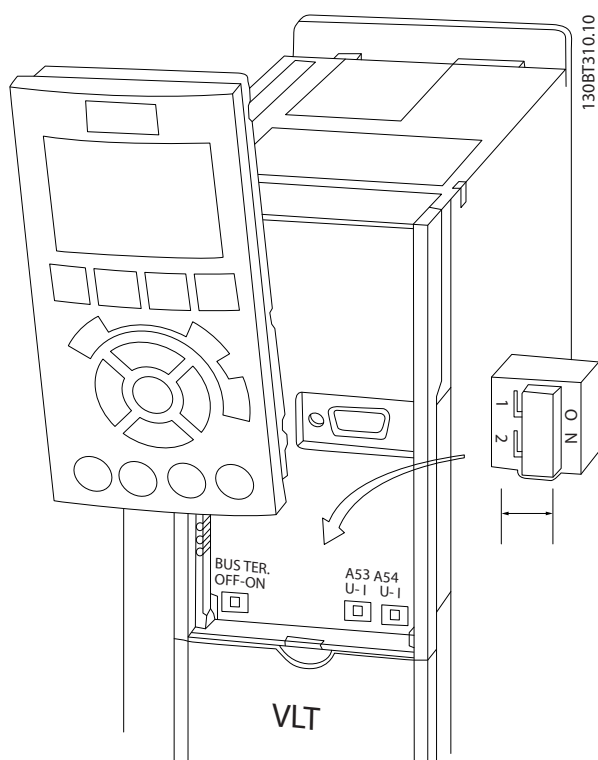

Figure 2.14 Location of Terminals 53 and 54 Switches and Bus Termination Switch
- The switches are accessible when the LCP has been removed (see Figure 2.14). Note that some option cards available for the unit may cover these switches and must be removed to change switch settings. Always remove power to the unit before removing option cards.